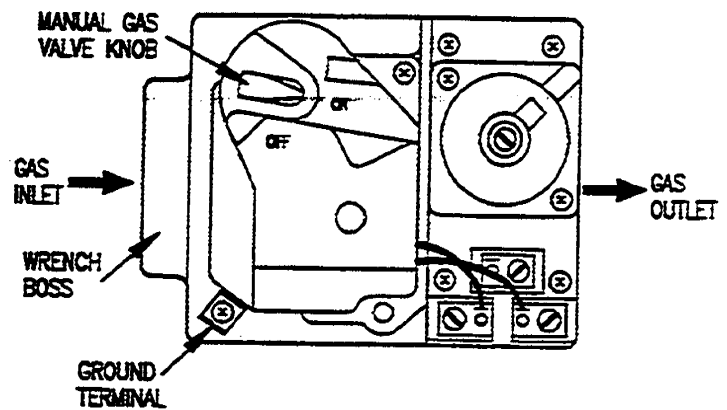

Figure 2-12 Automatic Gas Valve
5. Refer to Figure 2-12, and turn manual control knob on the automatic gas valve(s) to the OFF position.